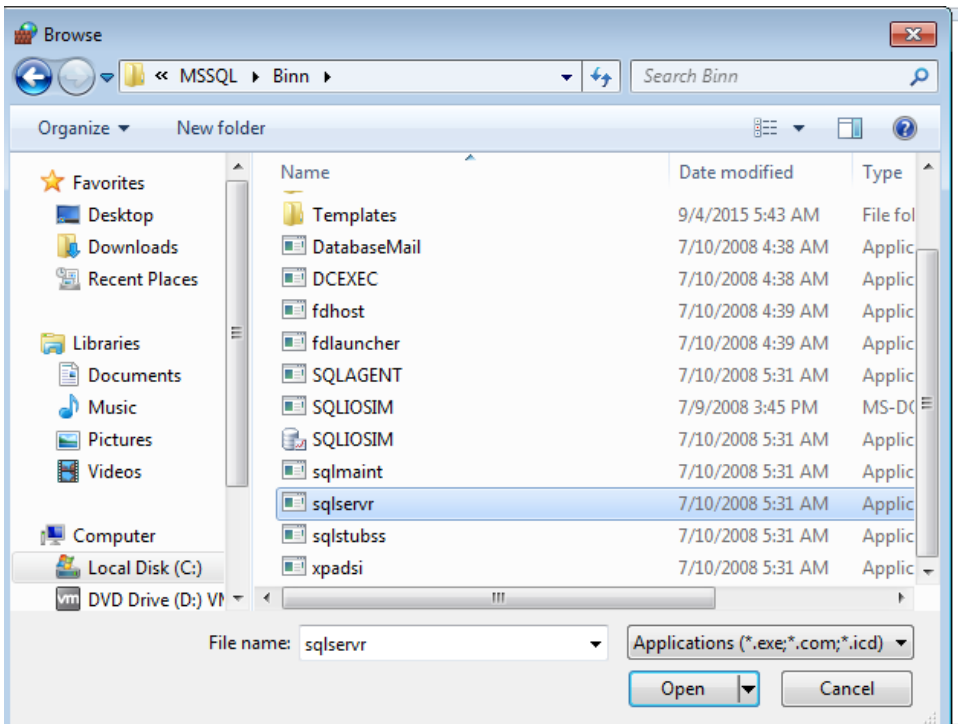

Fig.1.24 Browse
(11) Double-click “sqlservr” (see Fig.1.24). Then click “Add” button to add sqlservr to Allow Programs